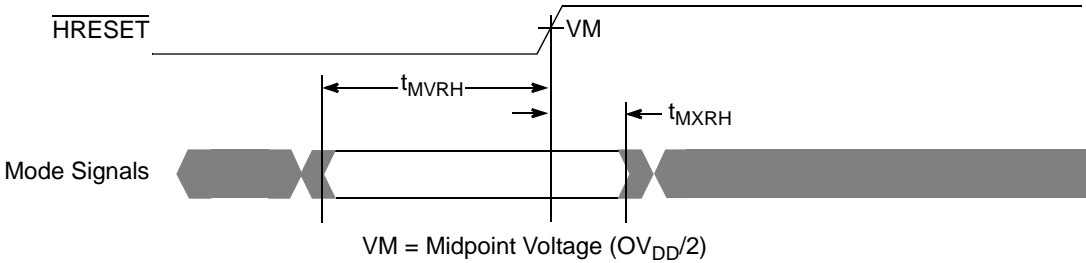

Figure 5. Mode Input Timing Diagram
Table 9 provides the processor bus AC timing specifications for the MPC7441 as defined in Figure 4 and Figure 5.
- The symbology used for timing specifications herein follows the pattern of  $t_{(\text{signal})(\text{state})(\text{reference})(\text{state})}$  for inputs and  $t_{(\text{reference})(\text{state})(\text{signal})(\text{state})}$  for outputs. For example,  $t_{\text{V}(\text{K})\text{H}}$  symbolizes the time input signals (I) reach the valid state (V) relative to the SYSCLK reference (K) going to the high (H) state or input setup time. And  $t_{\text{K}(\text{H})\text{O}(\text{V})}$  symbolizes the time from SYSCLK(K) going high (H) until outputs (O) are valid (V) or output valid time. Input hold time can be read as the time that the input signal (I) went invalid (X) with respect to the rising clock edge (KH) (note the position of the reference and its state for inputs) and output hold time can be read as the time from the rising edge (KH) until the output went invalid (OX).
- The setup and hold time is with respect to the rising edge of  $\overline{\text{HRESET}}$  (see Figure 5).
Figure 5 provides the mode select input timing diagram for the MPC7441.